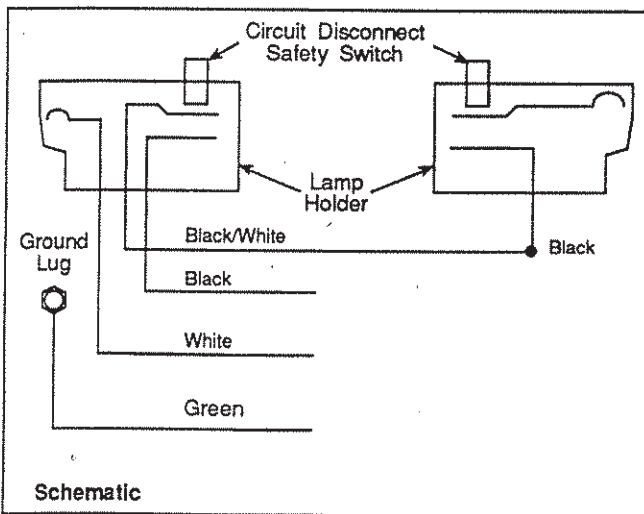

Figure 4.
6. Connect the power supply wiring to the light fixture as shown in the schematic, Figure 4.